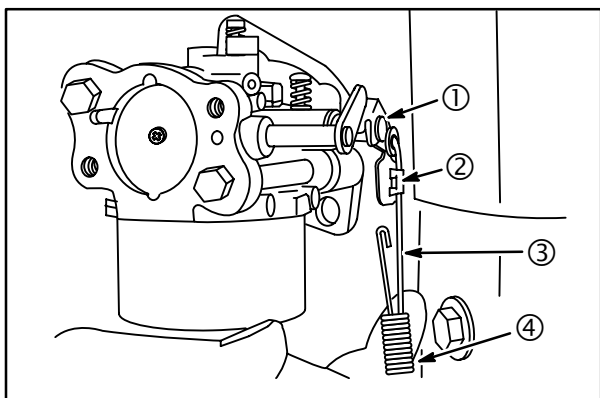
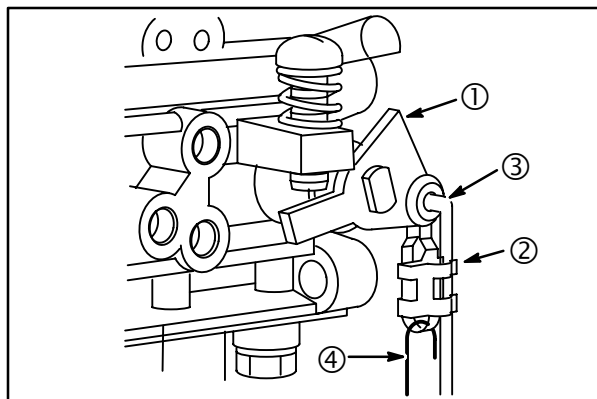

Fig. 25
Fig. 26
1. Connect governor link (3) to throttle lever (1). Snap retainer (2) over link, **single barrel carburetor, Fig. 25, two barrel carburetor, Fig. 26**.
2. Install governor link spring (4) in loop on retainer.